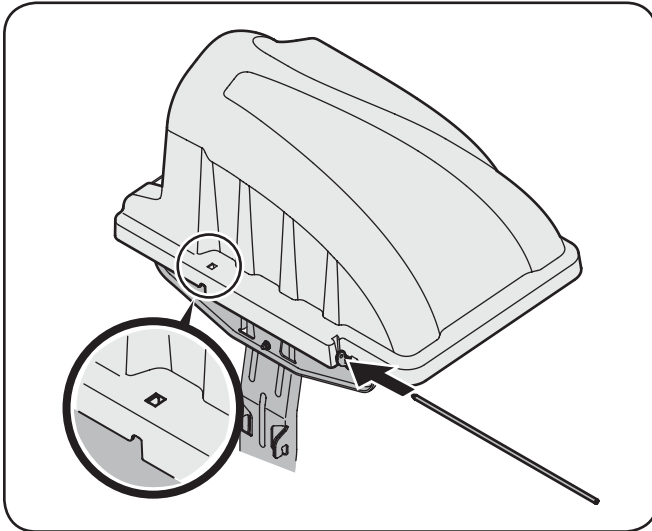
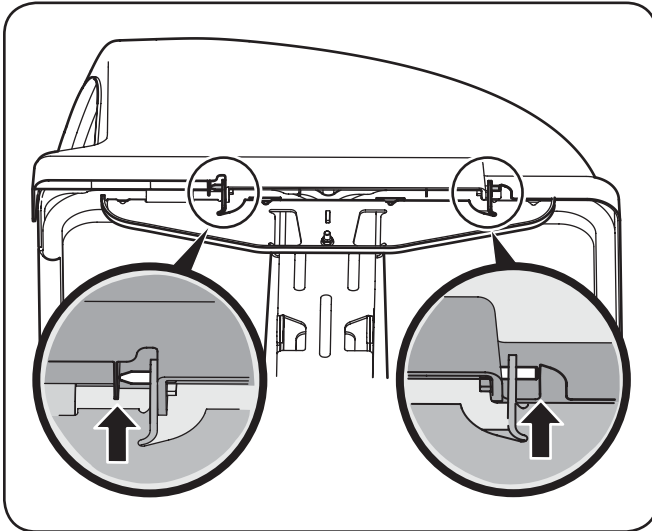

Figure 4-16
Figure 4-17
6. Slide the hinge pin into the hole located on the mounting tab, as in Figure 4-16. Use the cut-out window (See inset in Figure 4-17) to line up the hinge pin on the other side and push pin all the way in until it reaches the end-stop. At this point the pin clips into place and is secured by a tab in the bagger cover. See Figure 4-17.